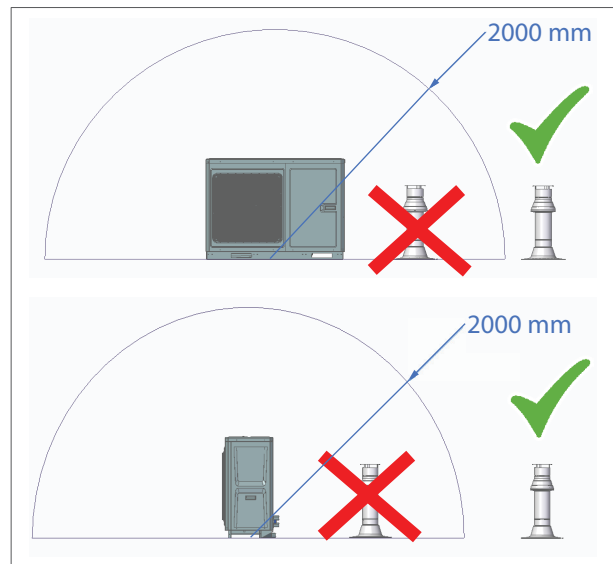

Figure 3 - Minimum distance between the flue of an air heater and a heat pump
**CAUTION!** Always keep a minimum distance of 2000 mm between the flue of an air heater and a heat pump (see figure 3). The fumes of the air heater can be sucked in by the heat pump and damage the heat exchanger.